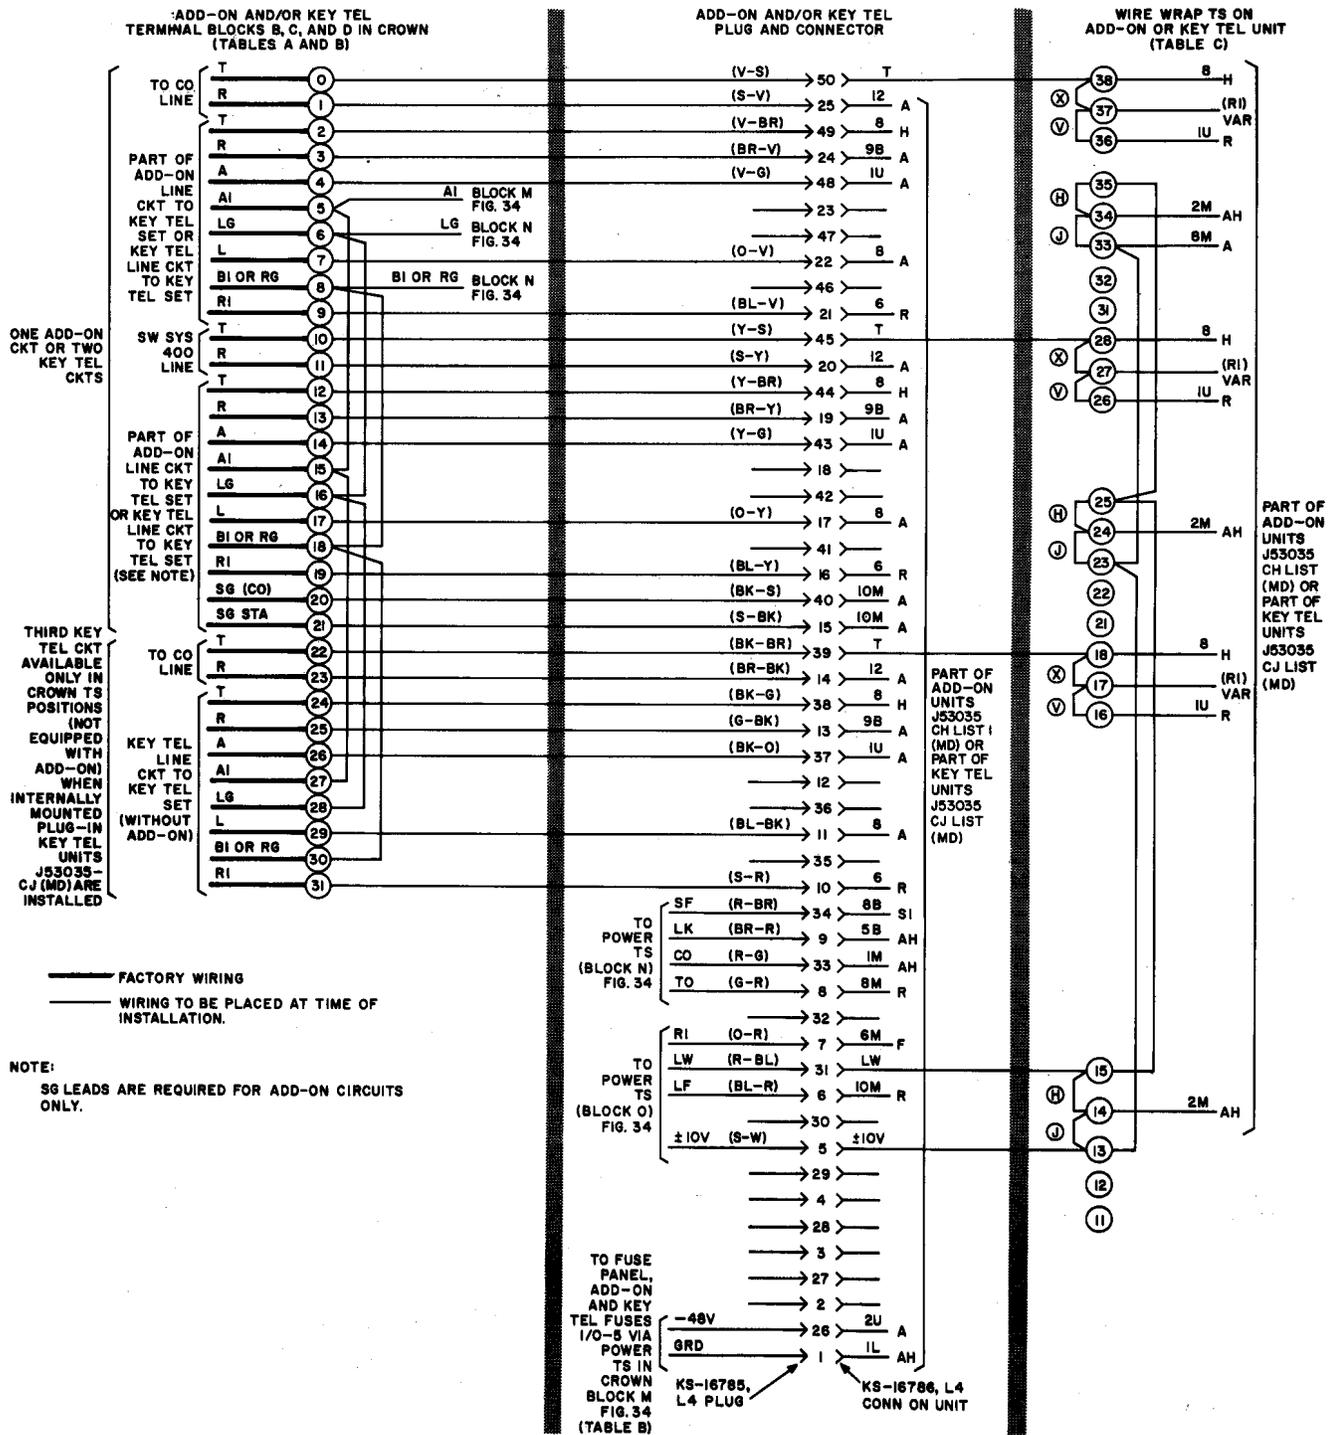

Fig. 11—Connections for Internal Add-On and Key Telephone Units
4.01 Internally mounted add-on line units J53035CH, List 1 (MD), are plug-in types. Lists 3, 4, 8, and 9 (MD) cabinet assemblies are factory equipped with two add-on units wired to positions 0 and 1 in the crown. (See Fig. 11 and Tables A, B, and C).
TABLE A (FOR FIG. 11)
TABLE B (FOR FIG. 11)
TABLE C (FOR FIG. 11)
- (1) Block **Z** and **W** relays nonoperated with blocking tools.
- (2) Do not provide **S (SG)** lead to station.
- (3) If each line circuit requires a separate ringer, connect **R1** and **B1** leads as required to proper clips of crown terminal strips B, C, or D for the respective key telephone unit involved (Fig. 11).
5.03 Figure 11 shows the connections for internally mounted J53035CJ, List 1 (MD) plug-in key
5.05 Internally mounted key telephone units are furnished with X and H options shop wired (Fig. 11).